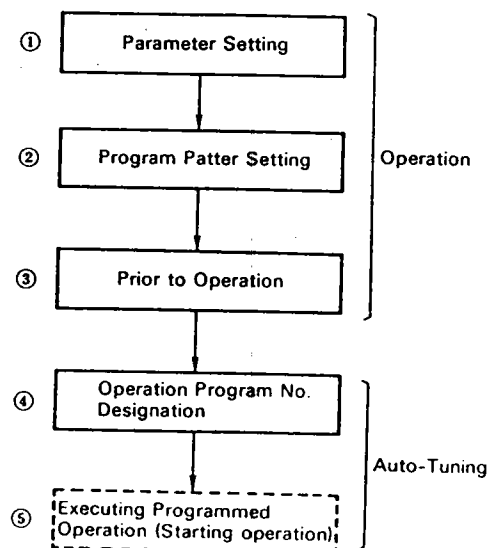

Figure 8.1
Settings ①, ②, and ③ shown in Figure 8.1 are required before UP25 Operation.